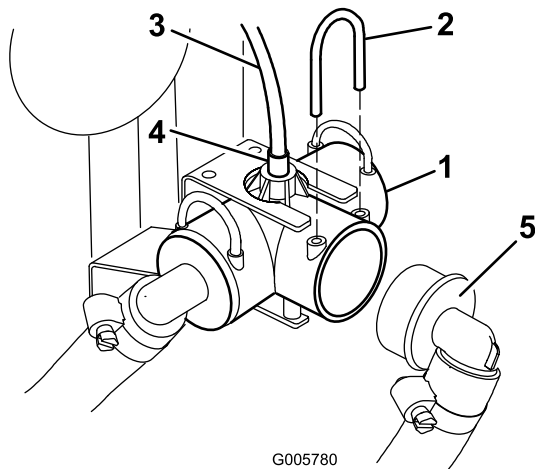

Figure 3
1. Remove hose large retainer fork to disconnect the boom supply hose from the supply tee (Figure 3).